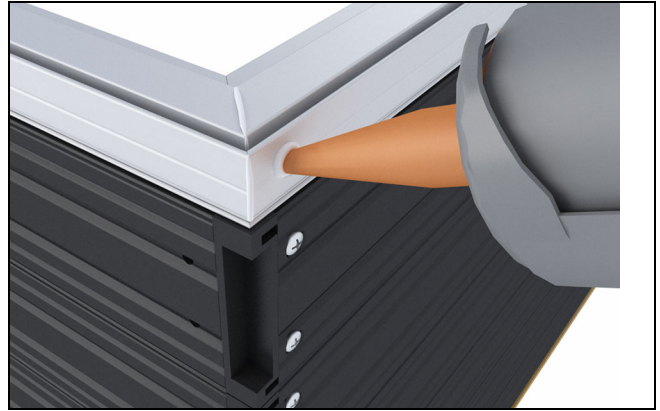

Figure 66
11. Inject both frame cladding corner key holes with sealant until squeeze out occurs. Fasten using #8 x 1 1/2" screw into each corner key. See figure 66.